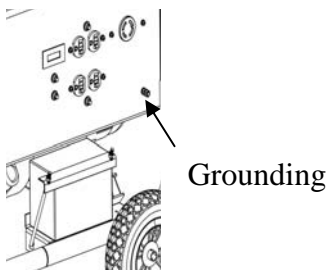

Figure 5- Grounding nut location
Ground the generator by tightening the grounding nut against a grounding wire (see figure 5). A generally acceptable grounding wire is a No. 12 AWG (American Wire Gauge) stranded copper wire. This grounding wire should be connected at the other end to a copper or brass grounding rod that is driven into the earth. Wire and grounding rod are not included in generator contents.
2. Check that the generator is properly grounded (see Figure 5, “Ground the Generator”).